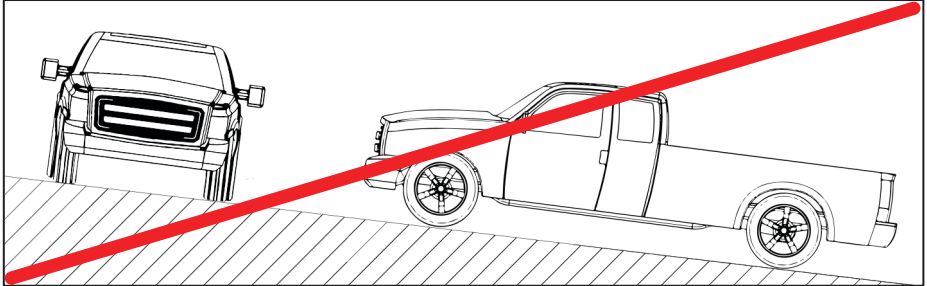

Figure 22 — Do not exceed 15° grade
- Ensure the system is not mounted (or parked) on grades exceeding 15° as this will affect lubrication and air/oil separation (Figure 22).